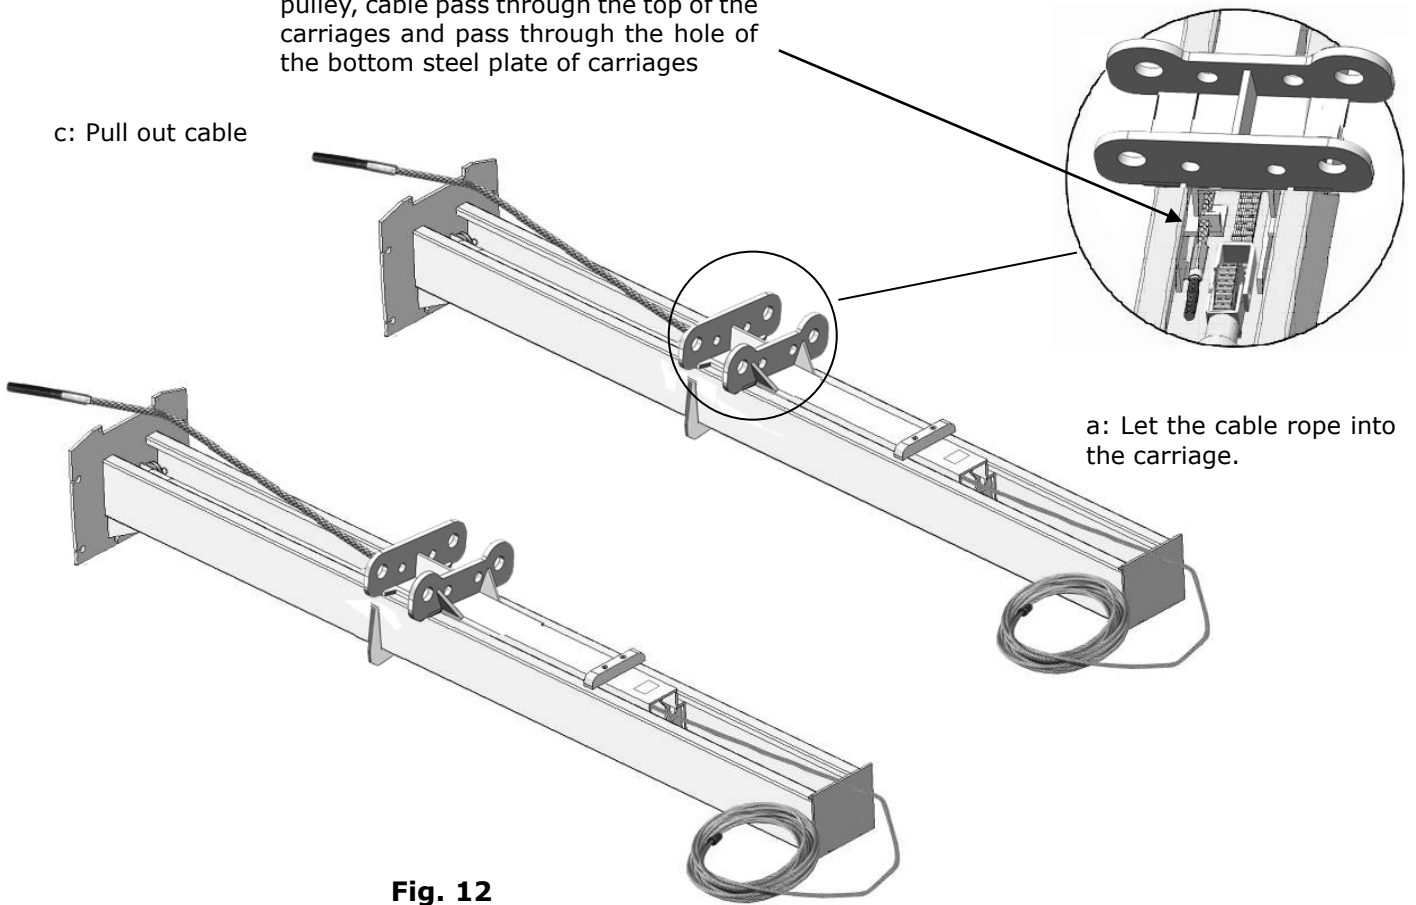

Fig. 12
E. Connecting cables (See Fig. 12)